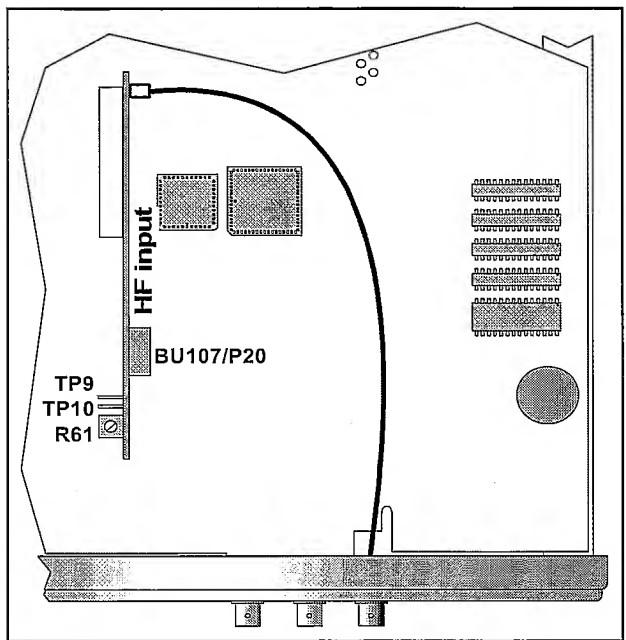

Figure 6-10 Test points and trimmers for the 2.7 GHz HF-input.
- Turn the potentiometer R61 fully counterclockwise. See Figure 6-10.